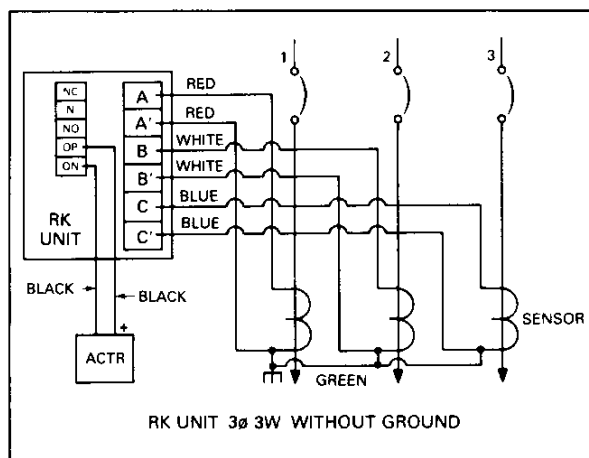

Fig. 8 Wiring Diagram
1. Acquaint yourself with the wiring scheme, see Fig. 8.